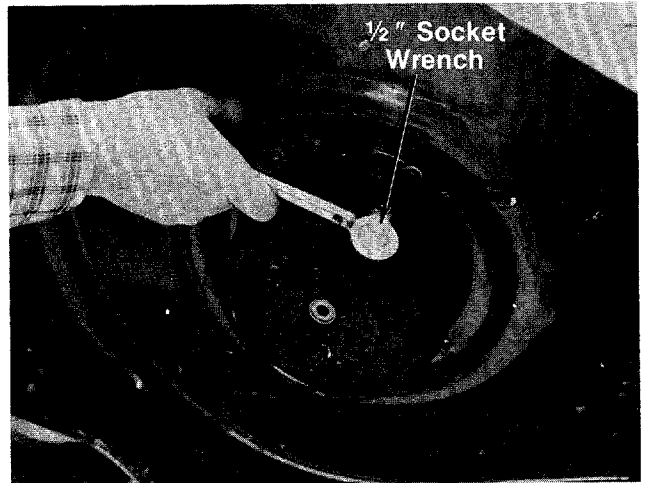

FIGURE 27.
10. Support the engine with one hand. Remove the three self-tapping screws which secure the deck and blade brake/clutch to the engine. A 1/2" socket wrench is required. See figure 27.